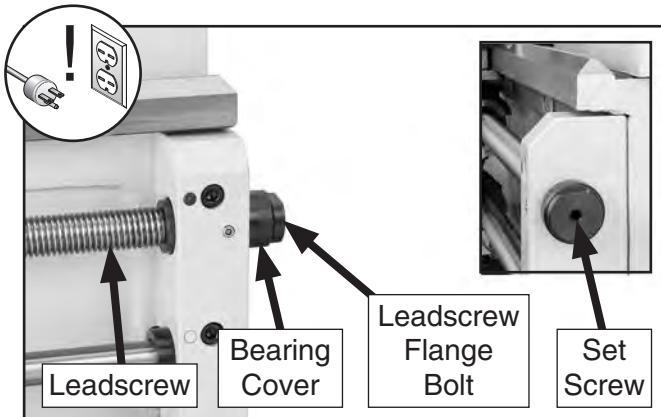

Figure 118. Leadscrew end play bearings.
2. Back out leadscrew set screw approximately five turns (see **Figure 118**).
3. Un-thread leadscrew flange bolt (**Figure 118**), and slide bearing cover off end of leadscrew.